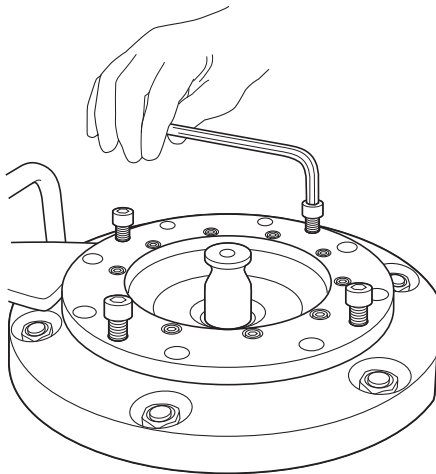

Figure 6.4: Inserting the bolts to jack out the bottom plate assembly.
- b There are four additional threaded holes on the bottom plate assembly. Use four of the removed bolts [801] and insert them into these four holes (see *Figure 6.4*).